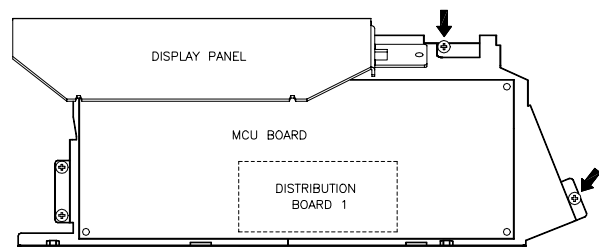
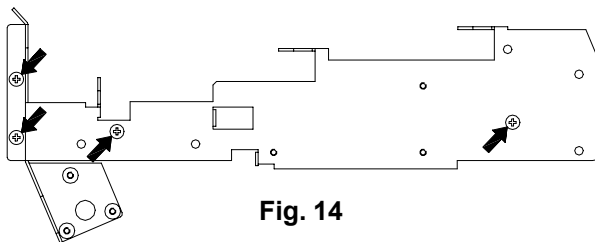

Fig. 2
Fig. 14
2. On the RH side, open the clamshell and remove the screws securing the MCU subframe, as shown in Fig. 2 below (avoid straining the flexi cables). This allows the subframe to swing outwards to provide access to the shaft ends.
1. Swing open the MCU subframe as shown in Fig. 2.
1. On the upper RH side, swing open the MCU subframe as shown in Fig. 2.
1. On the upper RH side, swing open the MCU subframe as shown in Fig. 2, and on the black subframe below, remove the screws indicated in Fig. 14 below, but do not remove the subframe. Note that the flexi cables must be unclipped to access the 2 counter-sunk screws on the outside face.